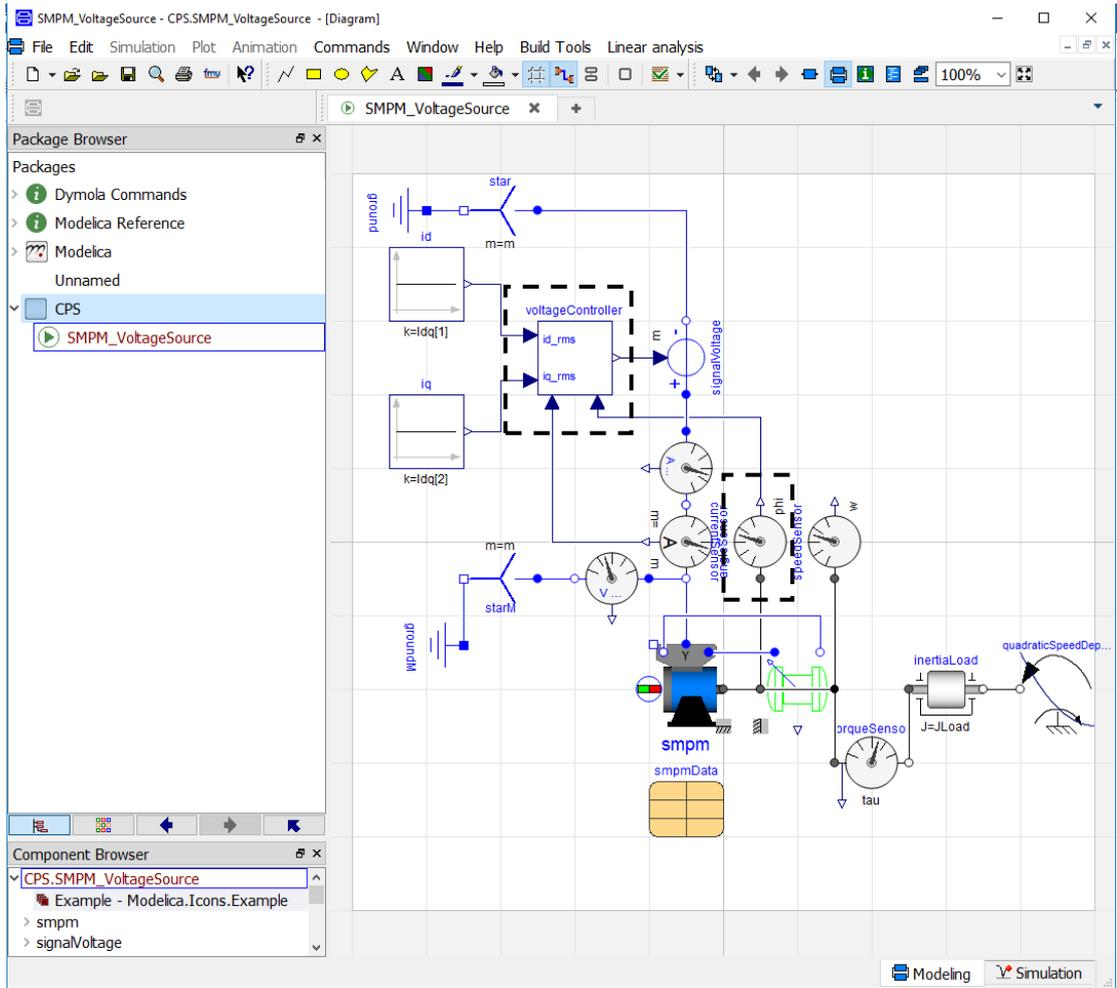
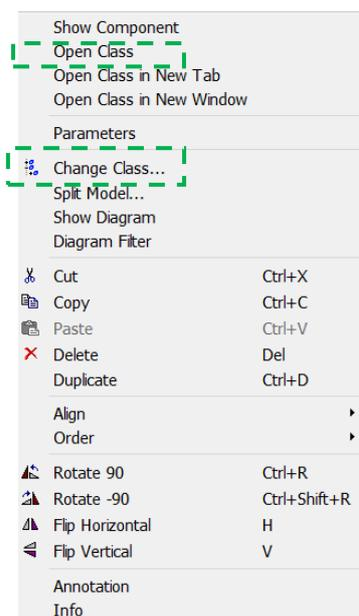
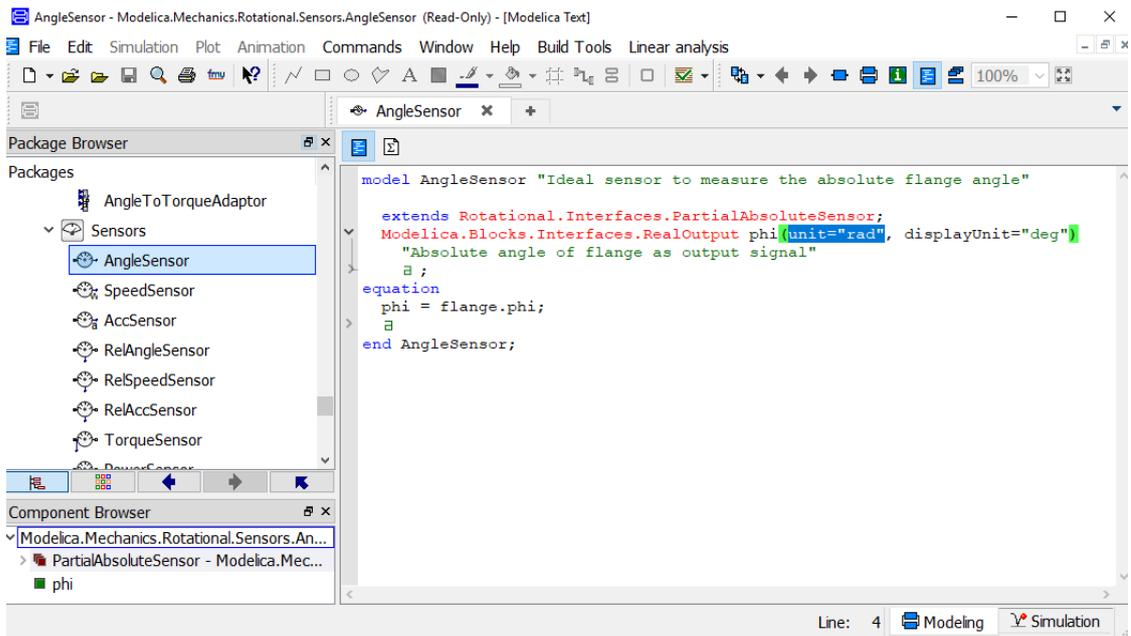
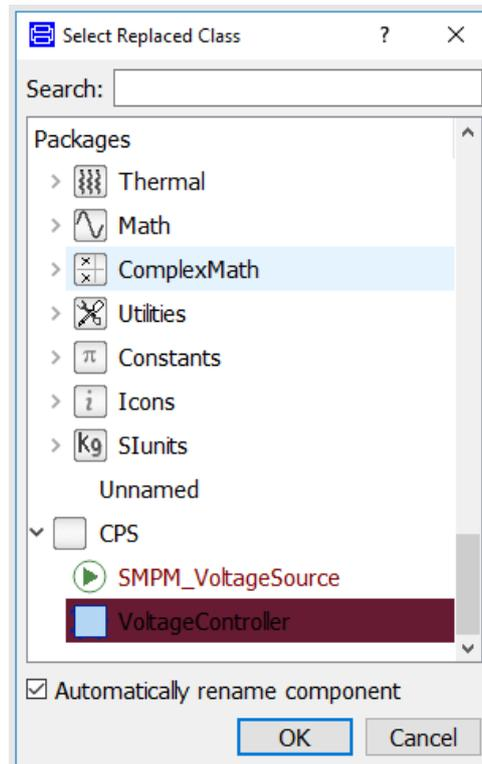

Figure 3 – A New package, CPS, with a model duplicated from MSL.
Figure 4 – Object right-click dialog box.
Figure 6 – Modelica Text layer of MSL AngleSensor.
Figure 8 – *Change Class...* dialog box.
2. Duplicate the model, **SMPM\_VoltageSource** available in MSL, and place into the newly created package, as shown in Figure 3.
3. Right-click on the **voltageController** model, see Figure 3, and then select **Open Class** option, as shown in Figure 4, a voltage controller model will be displayed.
- The next step is to check the unit of the **phi** connector of the **angleSensor** in Figure 3. For this purpose, repeat step 3, but switch to Modelica Text layer as shown in Figure 6.
6. As shown in Figure 6, the unit of the **phi** connector is “rad”. Copy the highlighted text in Figure 6.
8. Right click on the **voltageController** model in Figure 3, the same dialog box in Figure 4 will appear, but, this time select the **Change Class ...** A new dialog box will open-up as in Figure 8. Browse through this dialog box and select the modified **VoltageController**. Then click OK.